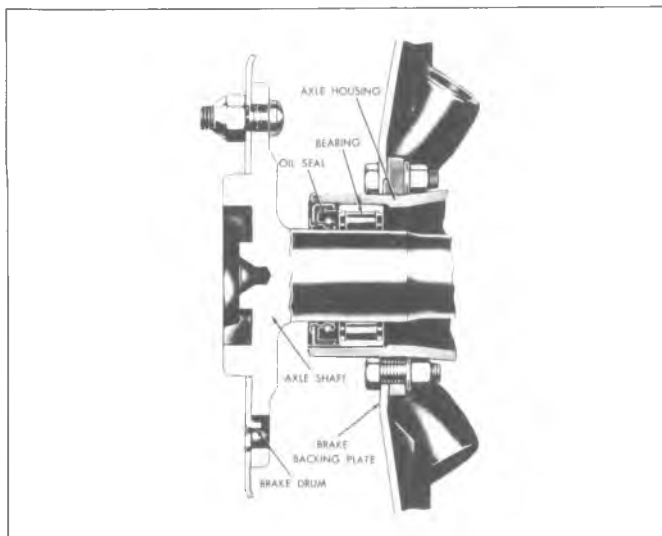

Fig. 19—Sectional View of Housing at Wheel Bearing
1. Remove the oil seal by using the button end of the axle shaft--insert the button end of the shaft behind the steel case of the oil seal, then pry seal out of bore being careful not to damage housing. Refer to Figure 19 for detail of seal and bearing installation.
2. Remove four nuts securing flange plate to axle housing (fig. 19).